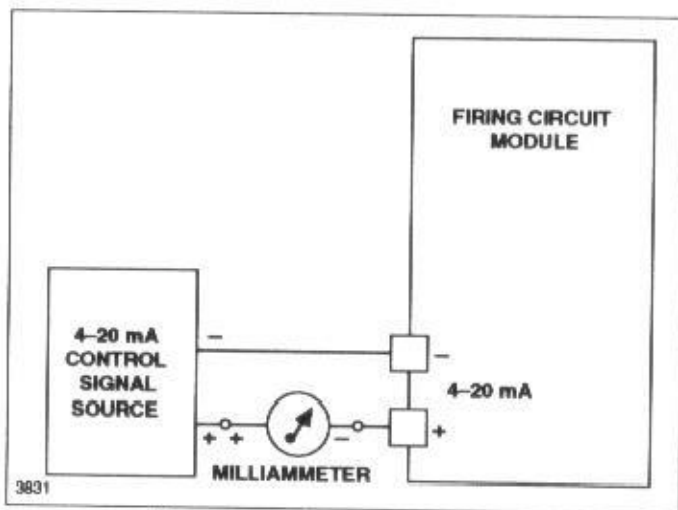

Figure 5-5. Control signal check.
- B. Using a milliammeter (see figure 5-5) verify that a 4–20 mA control signal of the proper level and polarity is reaching the firing circuit's **INPUT -** and **+ input** terminals. Be sure to check for reversed control signal polarity and for open or intermittent connections caused by loose or damaged wiring.